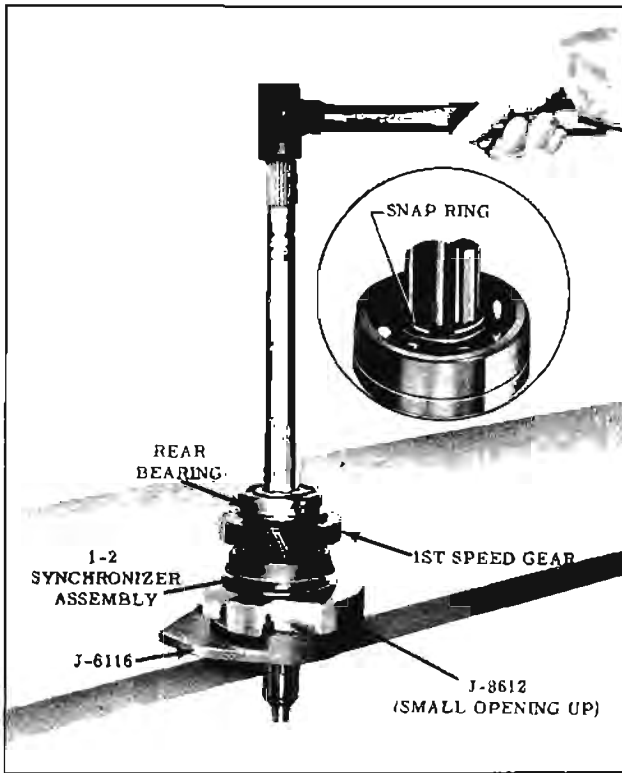

Fig. 11-237 Rear Bearing Removal
8. Remove the rear bearing snap ring from the main shaft. (Inset, Fig. 11-237)
9. Place the front of the main shaft through the smaller opening side of tool J-8612, F-85 Rear Pinion Bearing Remover. Tool J-8612 may be placed on Jetaway clutch Holding Fixture J-6116 with front of main shaft through fixture. (Fig. 11-237)
10. Drive the main shaft out of the bearing using a lead or bronze hammer (shaft may be removed by using a press). (Fig. 11-237)